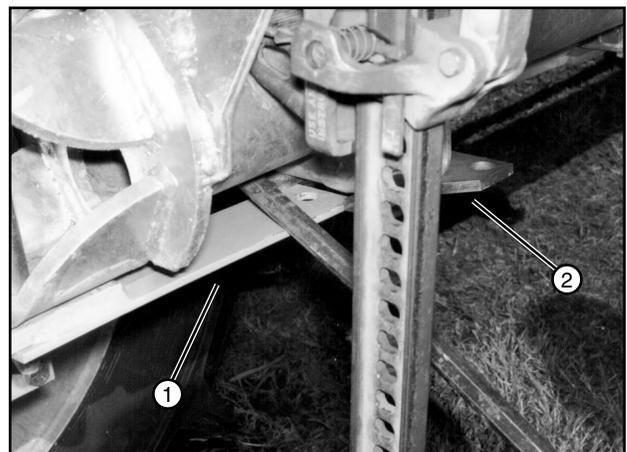

Figure 67-3 1. Steering Arm
6. Make sure the steering arm is latched in the latch plate. See Figure 67-3.